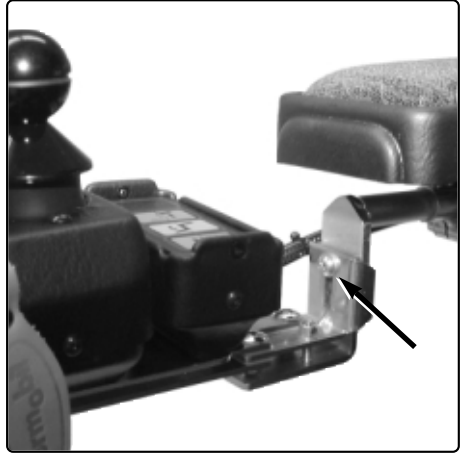

Bild 4. Adjusting the height with retractable hardware
1. Loosen the screw; see figure 4.